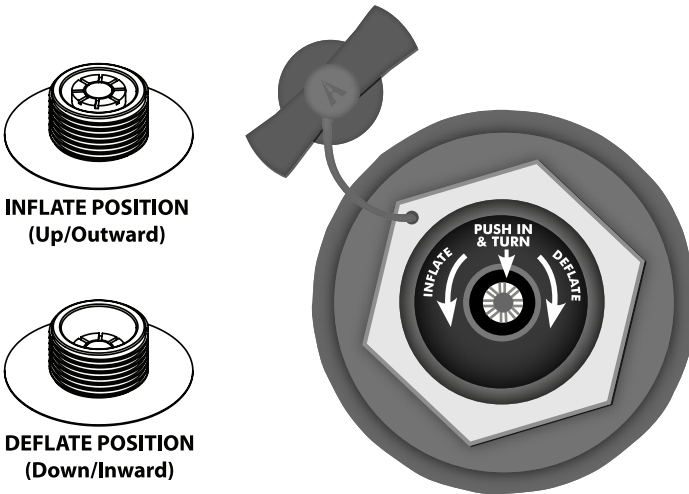

Figure 1. Inflate/Deflate Spring Valve
1. Starting with Chamber 1, check to be sure that the valve plunger is UP or in the INFLATE position (*See Figure 1 on previous page*). Inflate until the kayak begins to lift off of the ground and take shape, then close cap.
Use either a bellows style foot pump or two-way hand pump to inflate to your kayak. Be sure that the fitting on the pump hose fits snug in the valve on the kayak. **NEVER USE COMPRESSORS, CO₂, OR COMPRESSED AIR AS THEY MAY DAMAGE YOUR KAYAK.** The main chambers use high-end military style, plunger valves (See Figure 1).
2. Push stems inward and rotate to deflate position (See Figure 1).